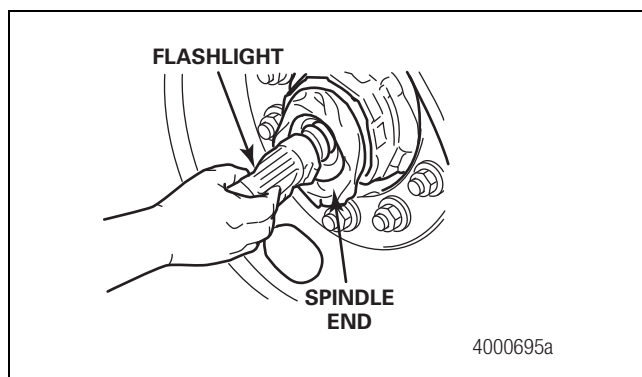

Figure 2.14
- Check the inside of the axle tube with a flashlight by shining the light into one end of the spindle and looking through the opposite end. Confirm that all debris, including loose rust, scale, liquid and machining residue has been removed. Figure 2.14.